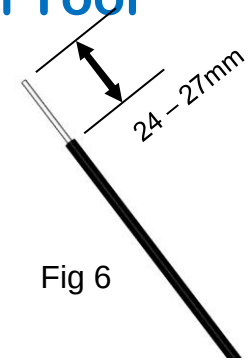

Fig 6
6. After stripping, the fibers should appear as they do in (Figure 6).